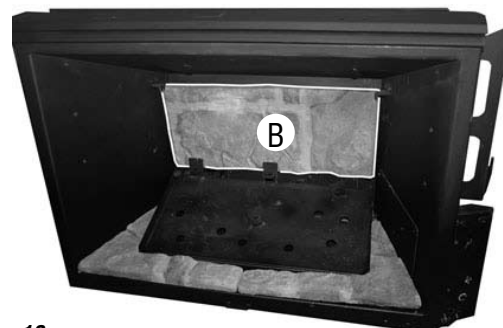

Figure 16
2. Next place the rear panel (B). It will set on the bracket mounted to the blower mounting plate on the back of the firebox. See **Figure 16**.